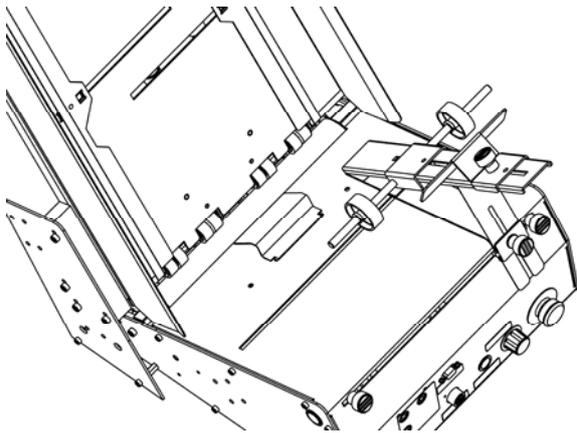

Figure 17: Using one wedge
- Inserting one wedge into the middle pair of holes of the contact plate. To do so, shift the paper feed ramp to the side, insert the wedge and shift it back to the middle position (see Figure 17).